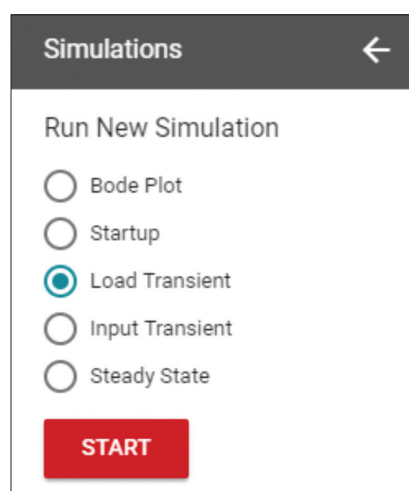

Figure 13.
4. In the **Select Simulation** type, select **Load Transient** list of simulations as shown in **Figure 13**.